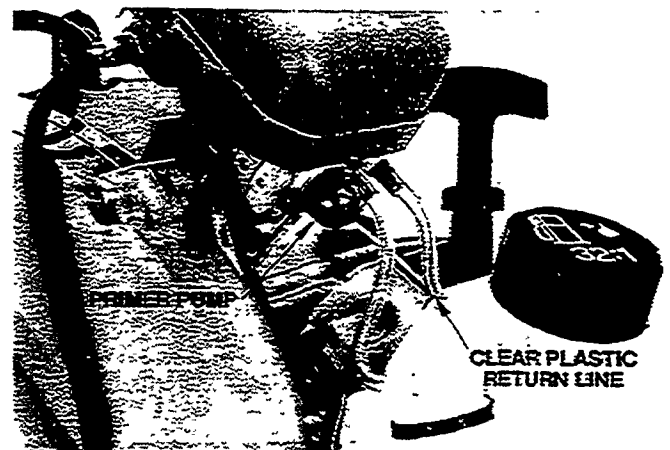

Figure 7
- Push the primer pump until fuel flows through the clear plastic return line (Figure 7).